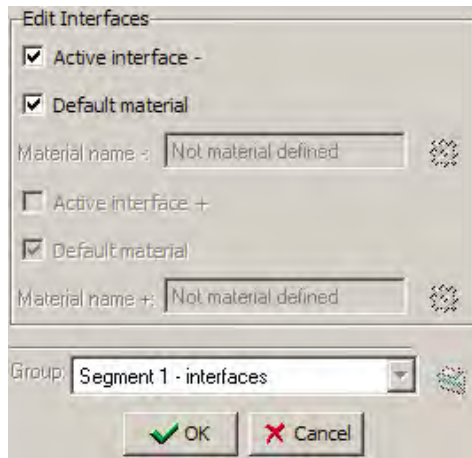

Figure 1.15 The *Edit Interfaces* window
- To activate the negative interface of the first tunnel segment double click at the first interface group to open the *Edit Interfaces* window (see Figure 1.15) and select the option *Active interface -*. Click the *OK* button to confirm the input.